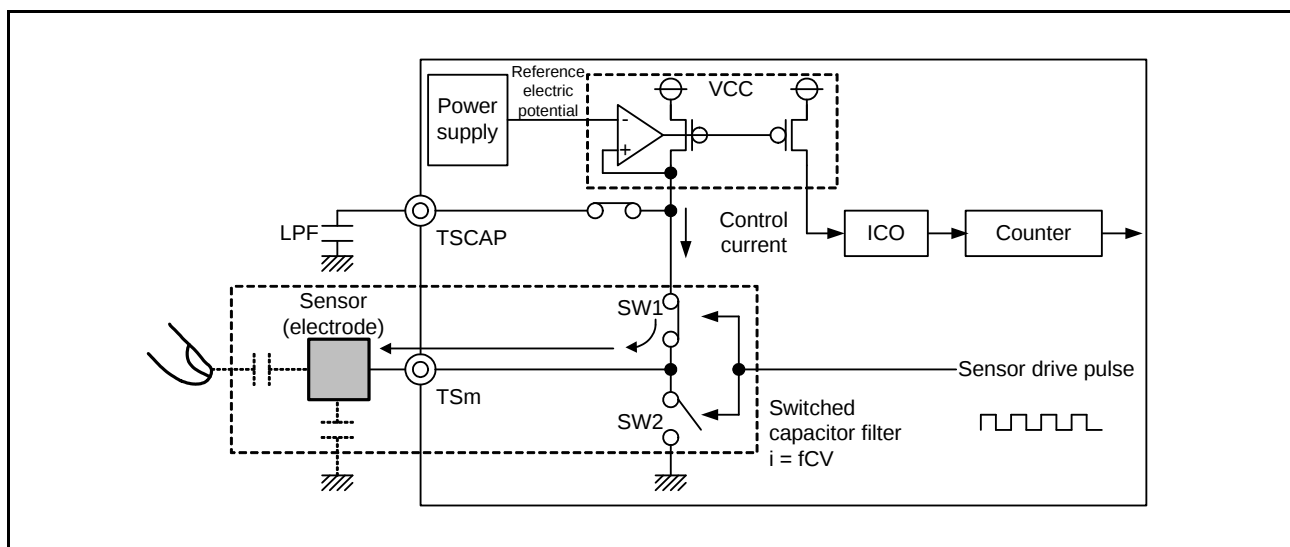
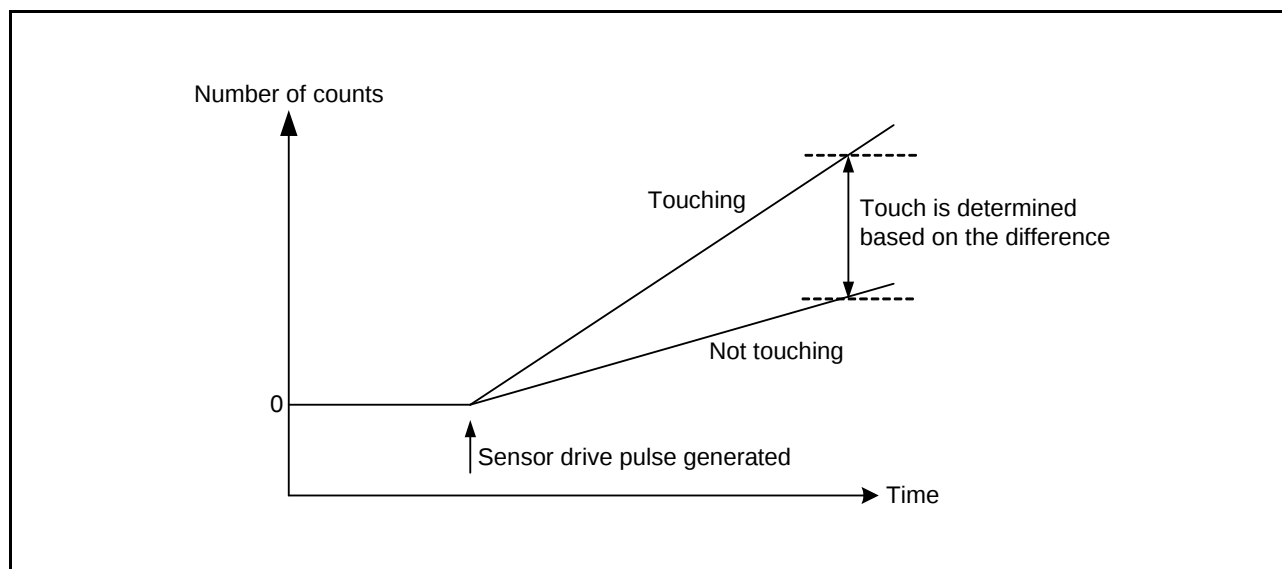

Figure 43.5 Charging Operation (m = 2, 3, 4, 7, 8, 12, 13, 22, 23, 27, 30, 35)
Figure 43.7 Change in Measured Value When Finger is Touching and Not Touching
The electrostatic capacitance measurement operation principles of the CTSU current frequency conversion method are explained using Figure 43.5 to Figure 43.7.
- (1) The electrostatic capacitance of the electrode is charged by turning SW1 on and SW2 off (Figure 43.5).
Current flows to the switched capacitor filter by switching between charging and discharging in steps (1) and (2). At this time, the value of electrostatic capacitance varies depending on whether a finger is in close proximity, so the flowing current changes. A clock is generated by supplying the control current, which is proportional to the amount of the current flowing through the switched capacitor filter, from the circuit that generates the TSCAP power supply to the ICO. The counter is used to measure the clock frequency which changes depending on whether a finger is in close proximity, and the value read from the counter is used by software to determine contact with a finger (Figure 43.7).